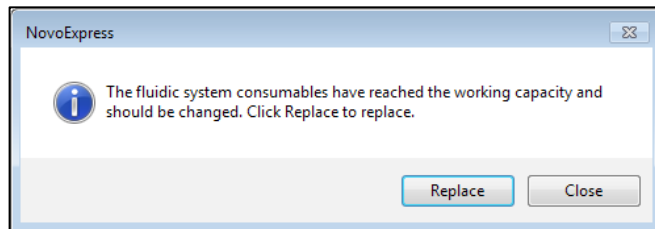
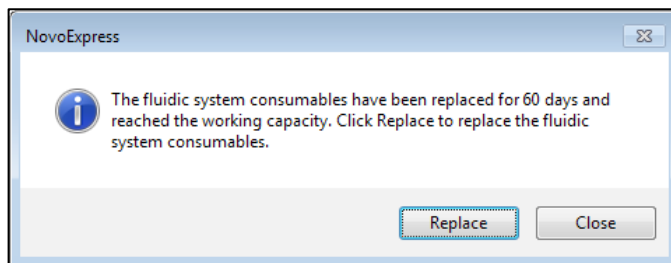

Figure 91. Software Message Indicating Fluidic System Consumables Reached Working Capacity
Figure 92. Software Message Indicating Last Replacement of Fluidic System Consumables is 60 Days Ago
When the accumulated running time is reached, the NovoExpress software will prompt a message to remind the user to replace the consumables (Figure 91). A similar message will be prompted when the last replacement is 60 days ago as shown in Figure 92.
- 1 Click **Replace** in the prompted window as shown in Figure 91 or Figure 92. The window below will be prompted.